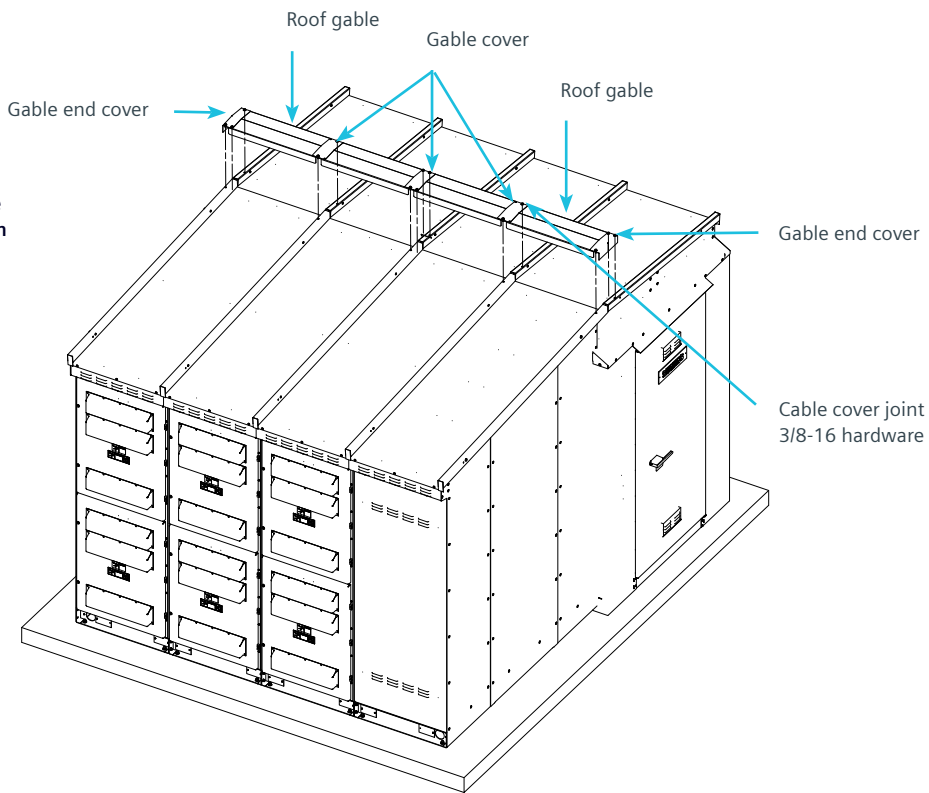

Figure 13: Instructions for factory-assembled-aisle type SGM-SG (continued)
1. Installing the left-side equipment shipping group (refer to Figure 3 of Figure 13: Instructions for factory-assembled-aisle type SGM-SG).